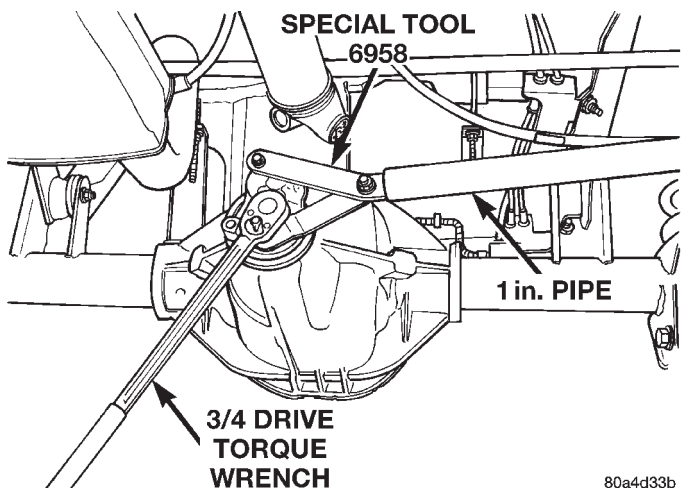

Fig. 46 Tightening Pinion Nut-Typical
- (14) Using yoke holder 6958 and a torque wrench set at 474 N·m (350 ft. lbs.), crush collapsible spacer until bearing end play is taken up (Fig. 46).